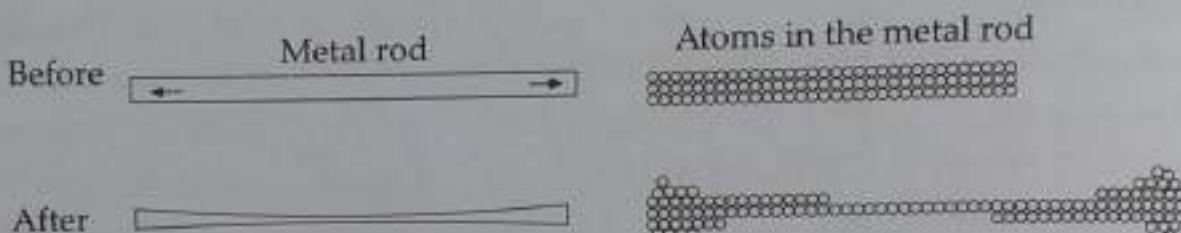

Fig. 3.14: Ductility in metals
- Most metals are **ductile** i.e. they are capable of being drawn out into wires. The atoms within a metal are arranged in layers. Ductility involves slipping of these layers of atoms over each other when the metal is pulled or hit. This results in the formation of wires as shown in Fig. 3.14.